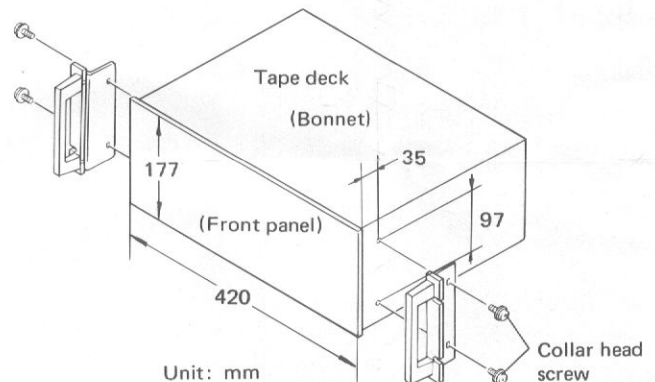

Fig. 2
The JA-R102 rack mount adaptor is designed to meet EIA standards. If you mount the adaptor onto the Pioneer stereo cassette tape deck with dimensions like those indicated in the Fig. 2 below, you will be able to install the deck into a rack designed to meet EIA standards (like the Pioneer JA-R2S) with a 4 unit mounting pitch. Provide yourself with a medium-sized Phillips screwdriver.
3. Secure the JA-R102 adaptors now assembled onto the front panel loosely with the accessory collar head screws (M4 x 15) (Fig. 2).